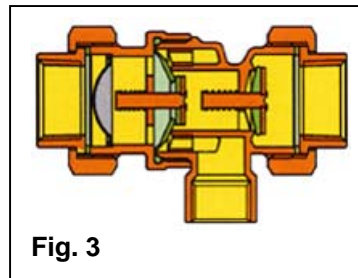

Fig. 3
- During back-siphonage conditions, both check valves close shut and the atmospheric vent opens, permitting air to enter the intermediate zone. (Fig. 3)